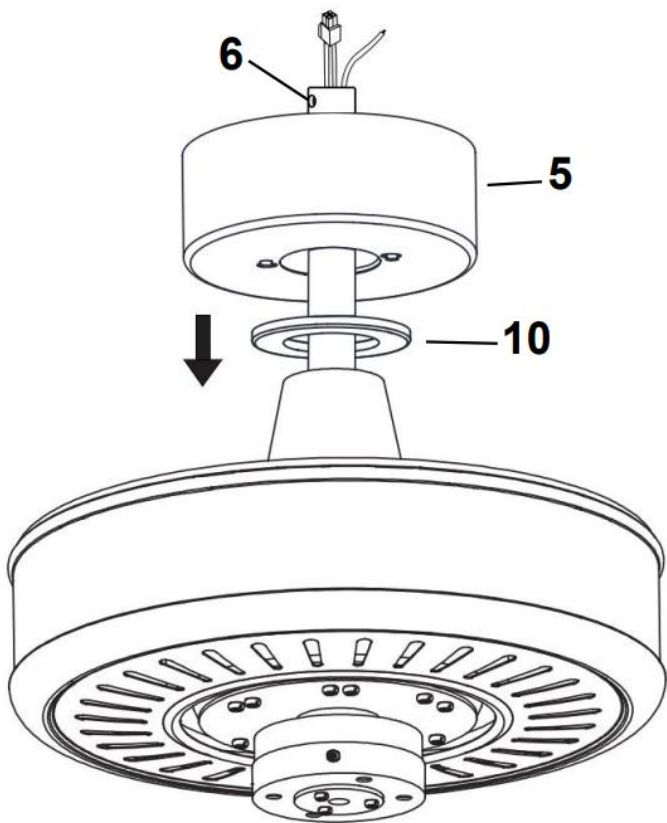
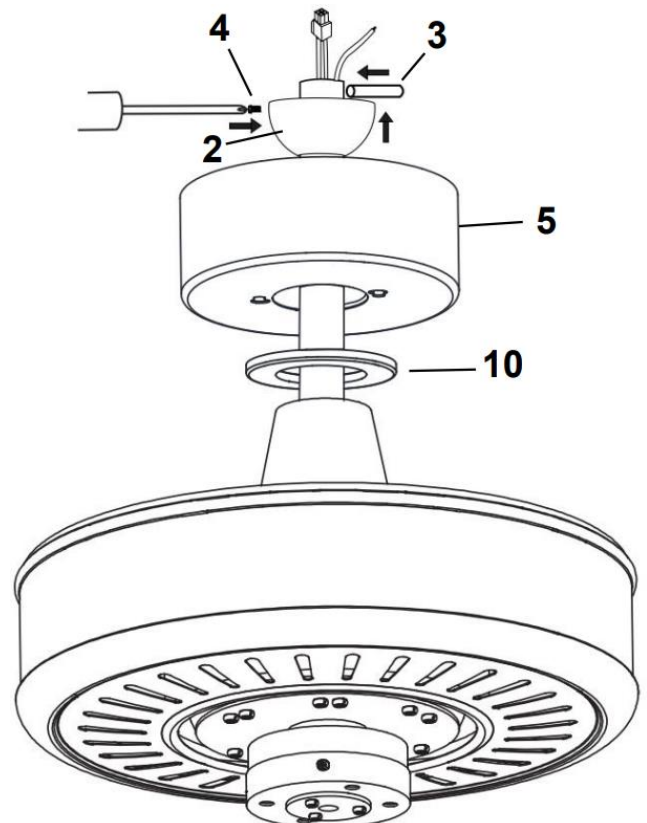

Fig. 4.4
Fig. 4.5
5. Insert the canopy cover (10) & canopy (5) over the down rod (6) and install the ball joint (2) and dowel pin (3) back onto the down rod (6) and secure by tightening the set screws (4). (Fig. 4.4 & Fig.4.5)